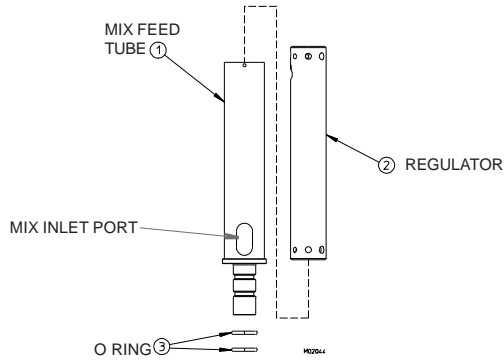

Figure 10-3 Mix Feed Tube Assembly
2. See figure 10-3. Insert the regulator into the mix feed tube assembly. Place mix feed tube on sanitized surface. Set to desired port size number. Larger holes are for thicker products. Insert the mix feed tube assembly into the hopper drain outlet.